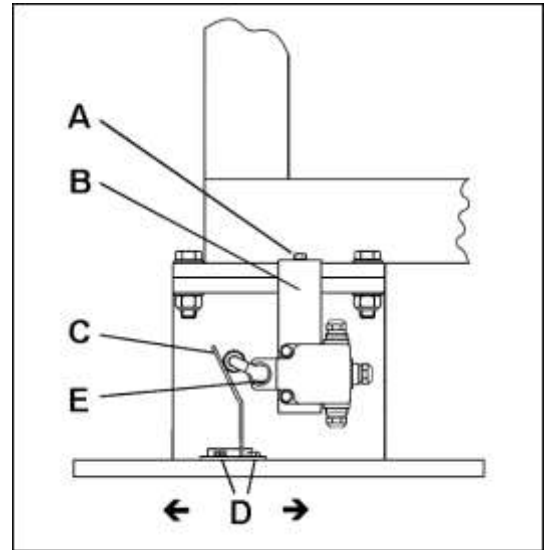

Fig. 4.9
**Adjustment of position detectors actuators** (Figure 4.9).